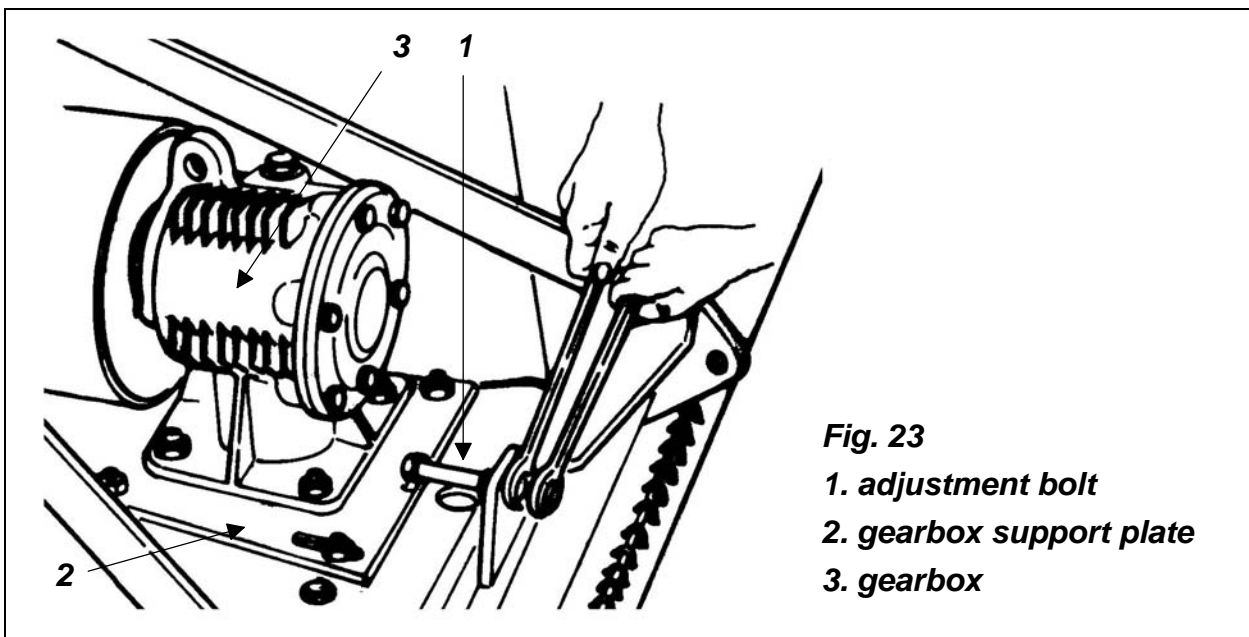

Fig. 23
To adjust the tension do the following (**see fig. 23**):
4. Turn the adjustment bolt counter clockwise, pushing the gearbox support plate forward until all tension is released (**see fig. 23**).